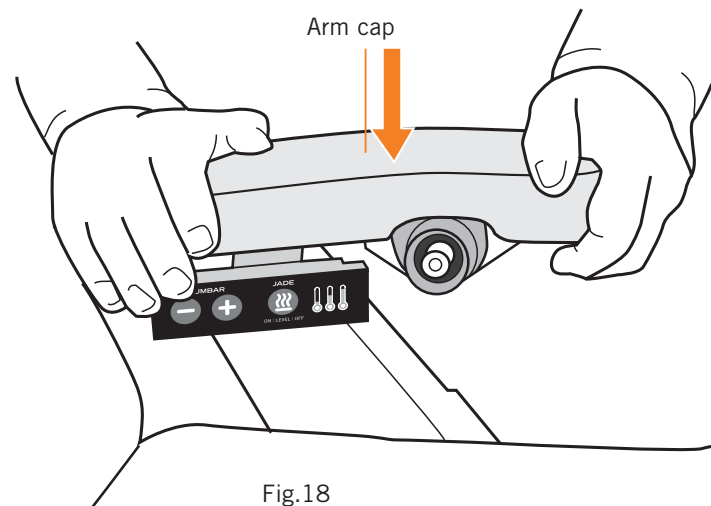

Fig.18
6. While holding the housing firmly in place, place the arm cap into position and press down firmly (Fig.18).